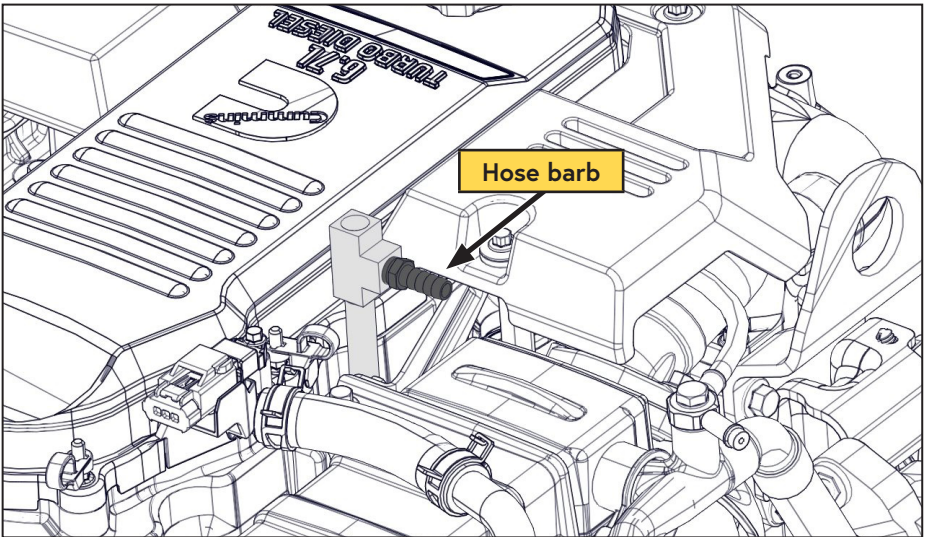

Figure 39 — Install hose barb
- ☐ Apply Loctite 567 (thread sealant) to the hose barb and install it onto the tee fitting (Figure 39).